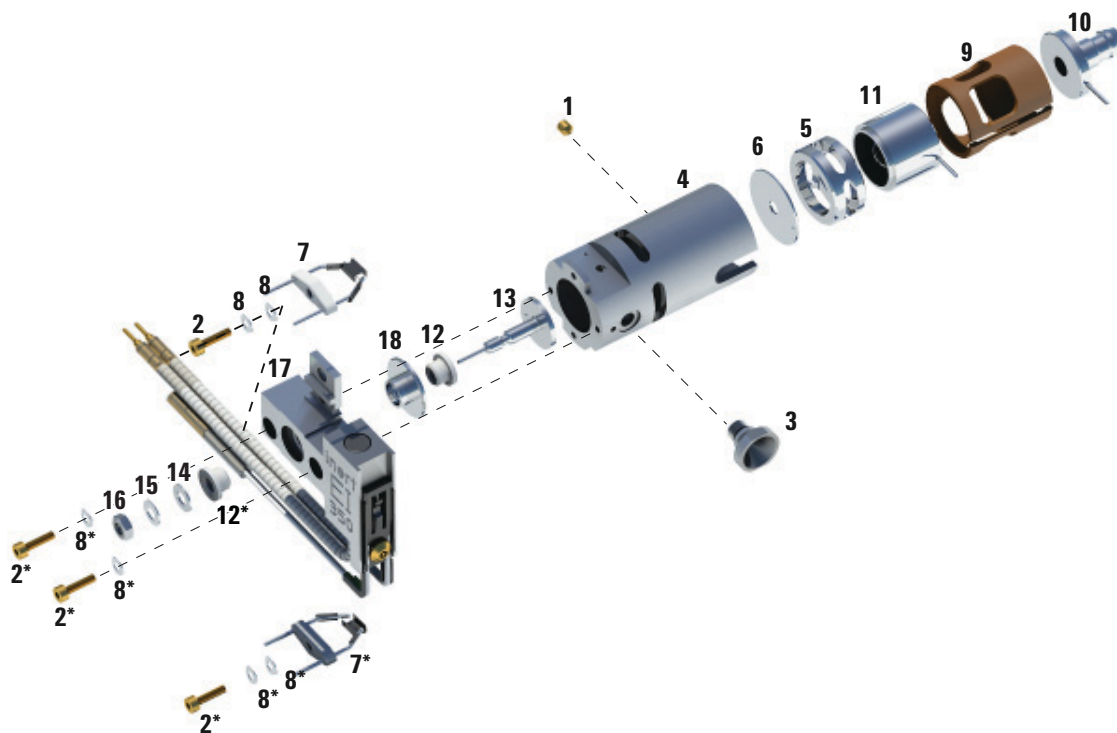

Figure 64. Disassembling the EI SS or Inert source
Refer to the exploded parts view **Figure 64** and the EI SS and EI Inert parts list **Table 20** on page 199 while using this procedure.
**Table 20** Parts list for the EI SS or Inert source (Figure 64)
**Table 20** Parts list for the EI SS or Inert source (Figure 64) (continued)